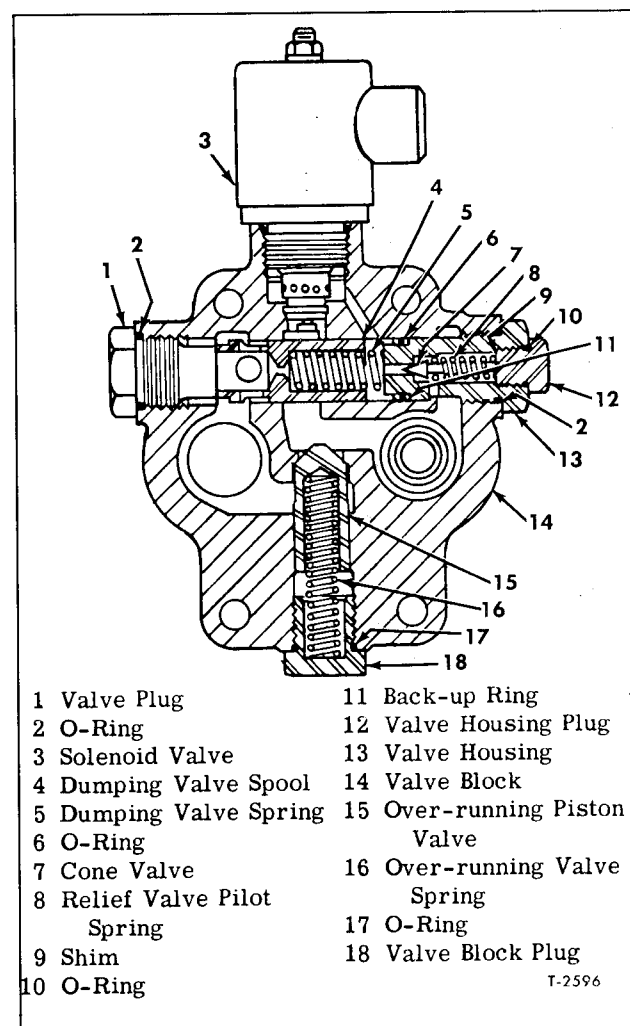

Figure 21—Sectional View of Valve Block Assembly
Key numbers in text refer to figure 21.
2. Examine piston (14) and spool (2) (fig. 21) and respective bores in valve block. Neither the pistons nor bores should be scored or excessively worn.
Key numbers refer to figure 21.